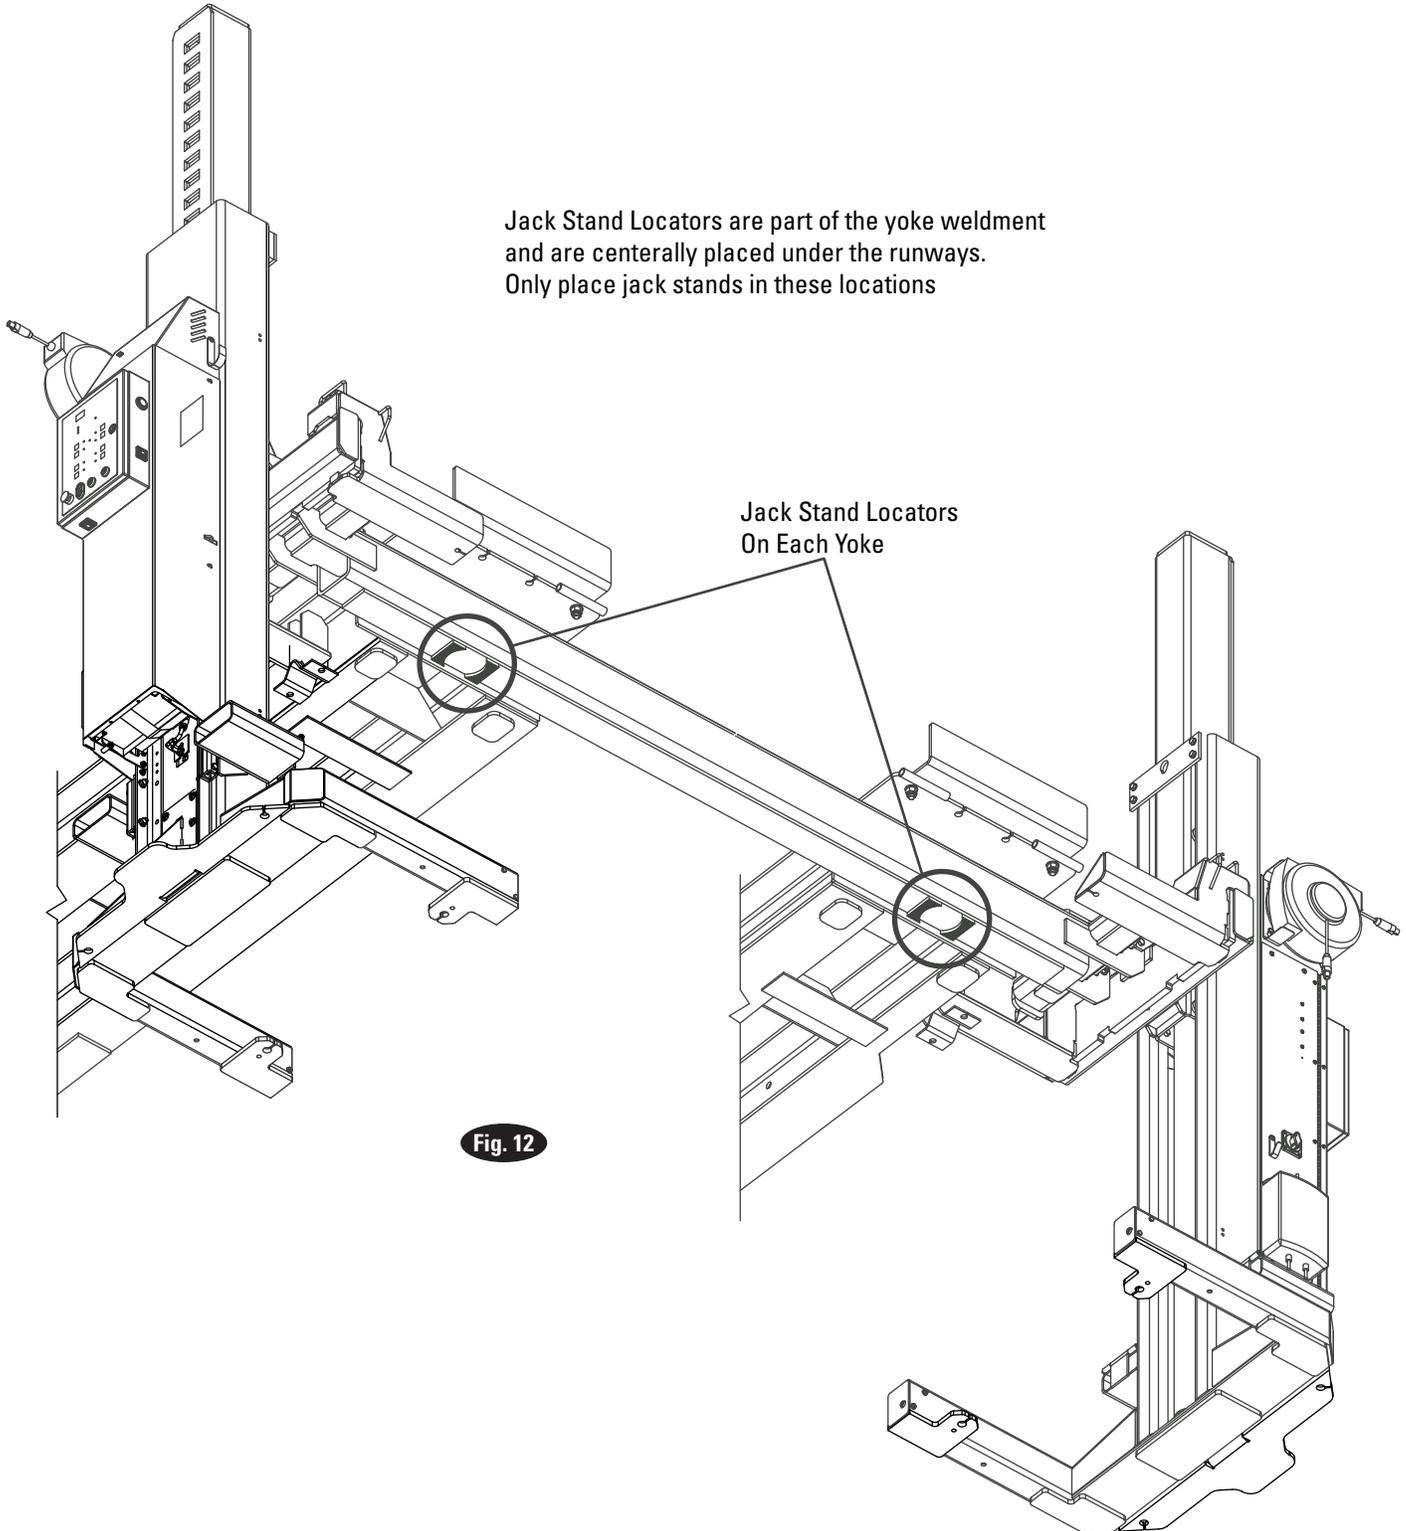

Fig. 12
1. **IMPORTANT** Only use jack stand locators when using jack stands, Fig. 12.